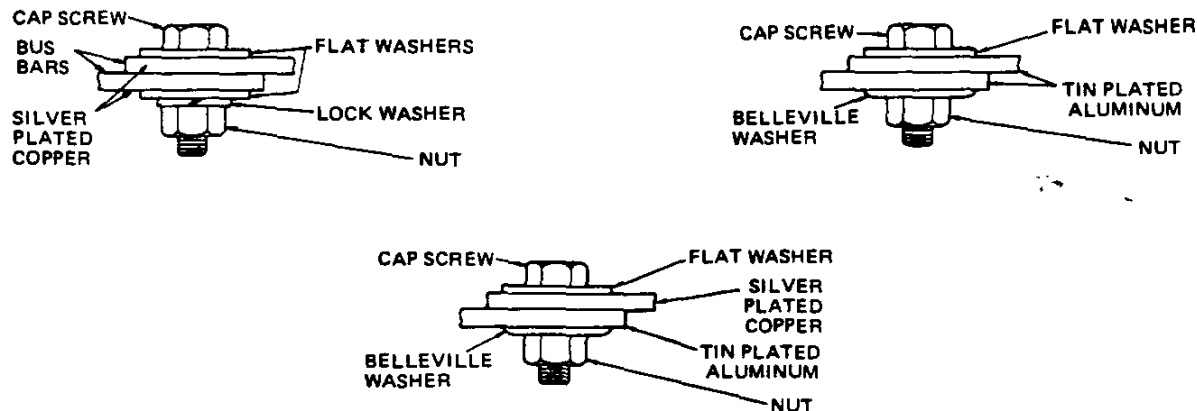

Figure 20. Bus Bar Joint Assembly (Bolted)
2. Assemble all joints as shown in Fig. 20.
Notice in Fig. 20 heavy washers are used on both sides of the bus bar joint — under the cap screw head as well as under the nut and lockwasher. These washers insure an evenly distributed force around each screw, producing a low resistance joint. The torque value of approximately 75-lb. ft. (102 N·m) produces a joint of adequate pressure without cold flow.